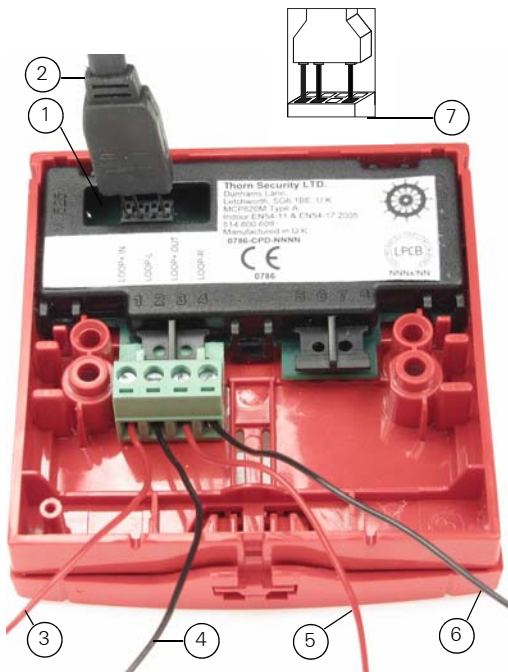
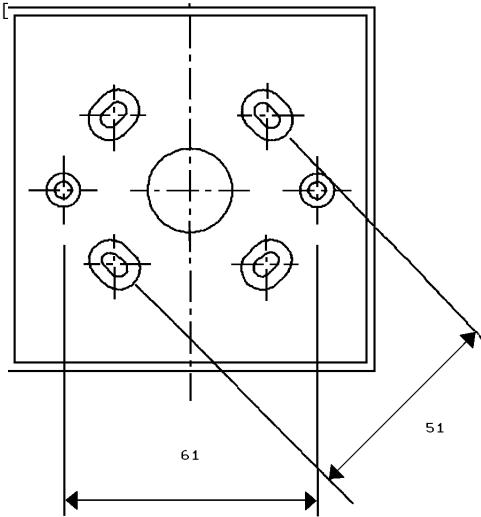

Fig. 2: MCP820M Rear View and Wiring Information
Fig. 3: MCP820M Fixing Dimensions Surface Mount Backbox
The MCP820M is programmed with the address prior to installation using an address programming tool. The associated ancillary programming lead plugs into the programming port (see Items 1 and 2 in Fig 2). Refer to Fig 3 for proper orientation.
Ensure that the pins of the ancillary programming lead are inserted completely into the lower row of the programming port (see item 7 in Fig 2) for effective communication with the Address programming tool.
- Connection to the MCP820M is made via the 4 way terminal connector as shown in Fig. 2, ensuring correct polarity.